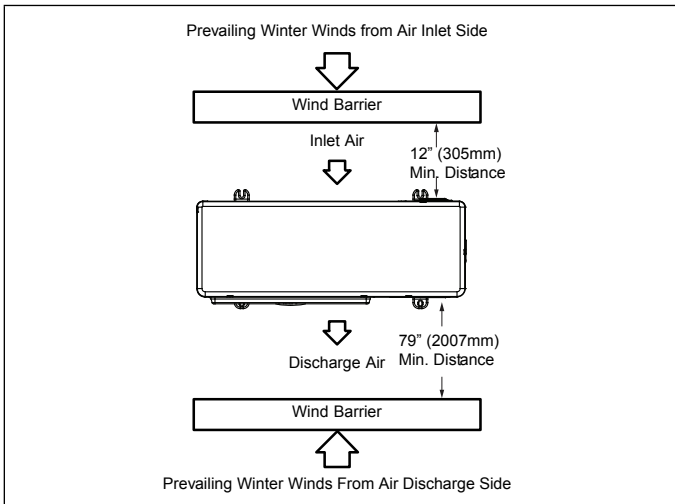

Figure 10. Wind Barrier
- When prevailing wind is into the discharge side, then position the wind barrier a minimum 79 inches (2007 mm) from the front of the unit as illustrated in “Figure 10. Wind Barrier”.